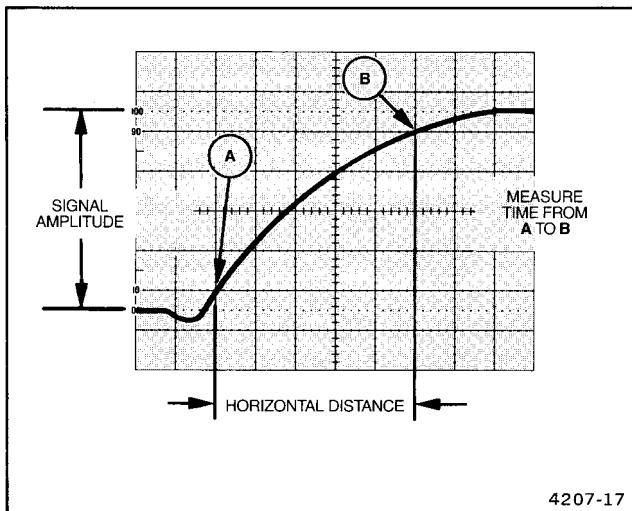

Figure 3-6. Measuring rise time.
4. Horizontally position the display so the 10% point on the waveform intersects the second vertical graticule line (Figure 3-6, Point A).
5. Measure the horizontal distance between the 10% and 90% points (Figure 3-6, Points A and B) and calculate time duration using the following formula:
EXAMPLE: In Figure 3-6, the horizontal distance between the 10% and 90% amplitude points is 5 divisions, and the SEC/DIV switch is set to 1 μs per division. Horizontal MODE is set to X1.